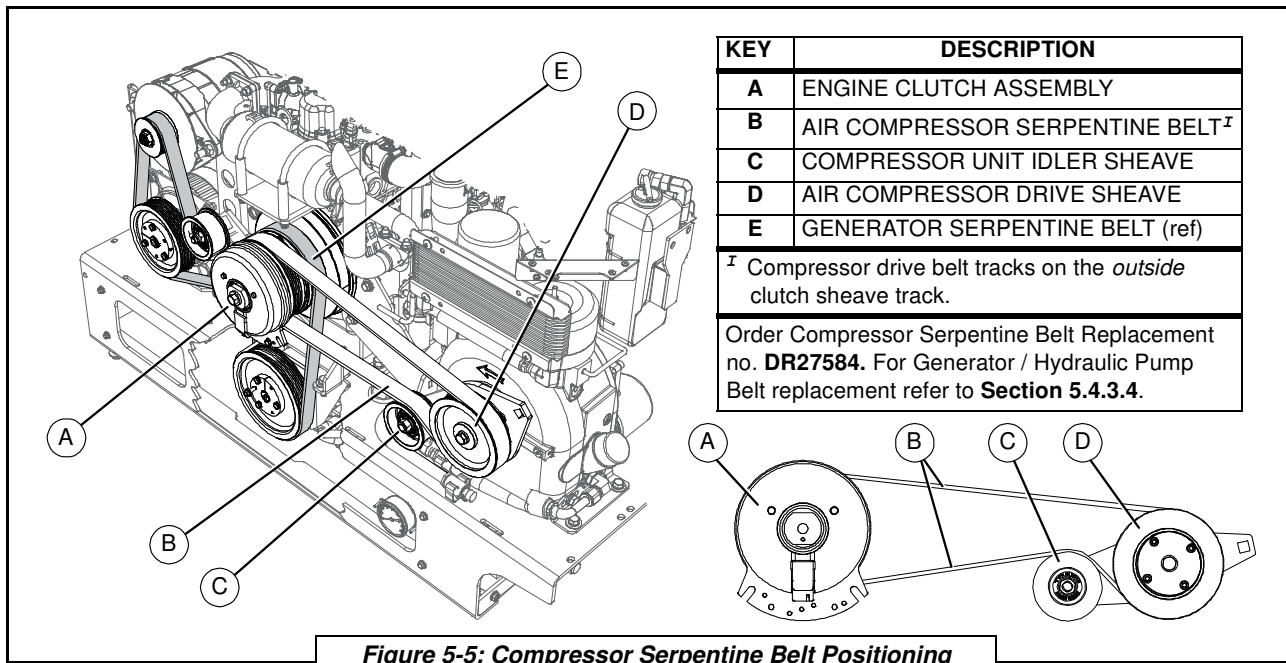

Figure 5-5: Compressor Serpentine Belt Positioning
2. Position and route a new air compressor serpentine belt [B] onto the proper driver tracks as shown in **Figure 5-5**, making sure that it goes on the *outside* driver of the double sheave track of the engine clutch assembly, closest to the face plate of the clutch. Also note that the textured side of the drive belt goes on the inside of the belt for traction with the drive pulleys.